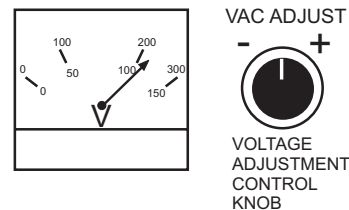

Figure 24. Voltage Meter/ Adjustment Control Knob
9. The generator's voltage meter (Figure 24) displays the 120 VAC in **VOLTS**. If the voltage is not within the specified frequency tolerance, use the voltage adjustment control knob to the right of voltage meter to bring the voltage within range.